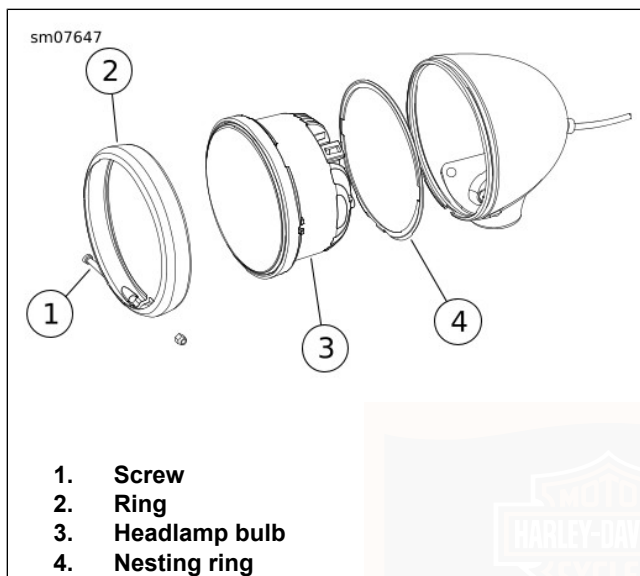

Figure 70. Headlamp Assembly
1. See Figure 70. Remove screw (1). Remove trim ring (2) from lamp housing.
1. See Figure 70. Place nesting ring (4) on back of **new** bulb (3) with the index tab facing away from bulb.